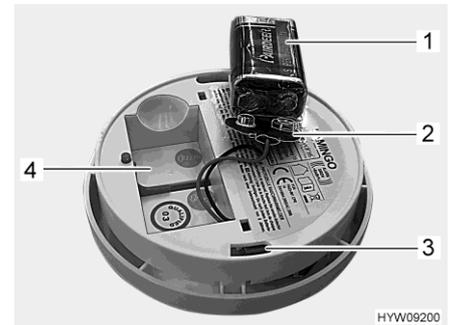

Fig. 236 Smoke alarm (rear side)
- Remove the battery and disconnect it from the battery clip (Fig. 236,2).
- Connect the new battery (Fig. 236,1) at the battery clip (Fig. 236,2). When doing so, make sure that the battery poles engage on the battery clip.
- Place the battery into the battery compartment (Fig. 236,4).
- Place the smoke alarm (Fig. 237,1) onto the holder (Fig. 237,3). The holding lugs (Fig. 237,2) must engage in the openings (Fig. 236,3) in the smoke alarm.